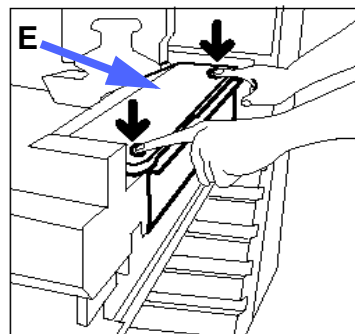

Figure 35: Unlatching the Cleaning Web
- 4 Press down on the gold Front and Rear Release buttons on the top of the fuser assembly, as illustrated in Figure 35, to unlatch the Cleaning Web (area E). The web opens to the right of the Paper Path Module.